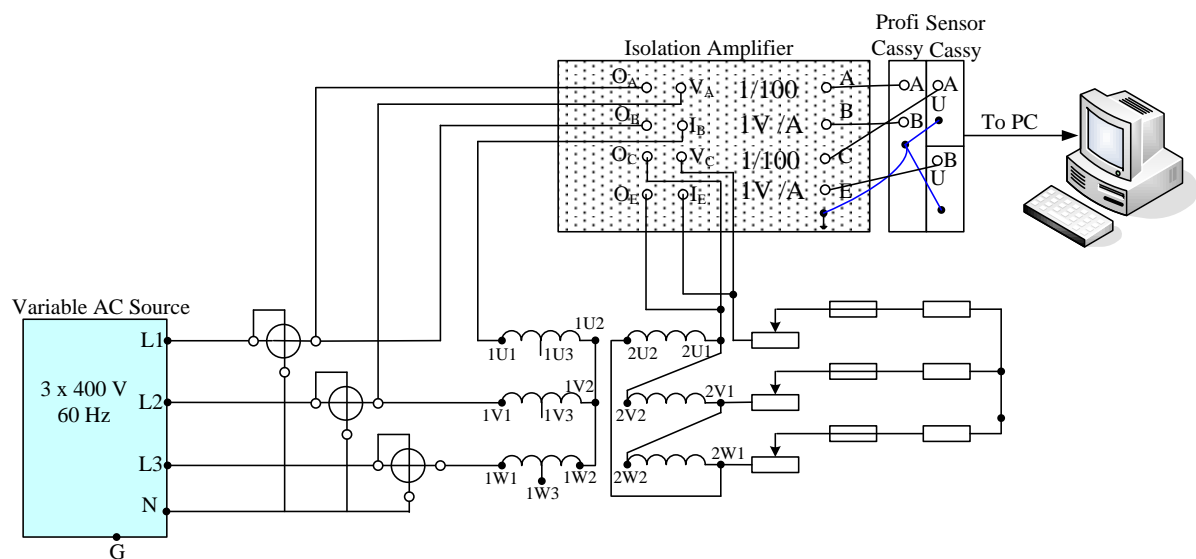

Figure 2 Circuit for investigating the three-phase transformer in a Y- Δ circuit
19. Set up the experimental circuit as shown in Fig. 2 where only one secondary winding is needed.